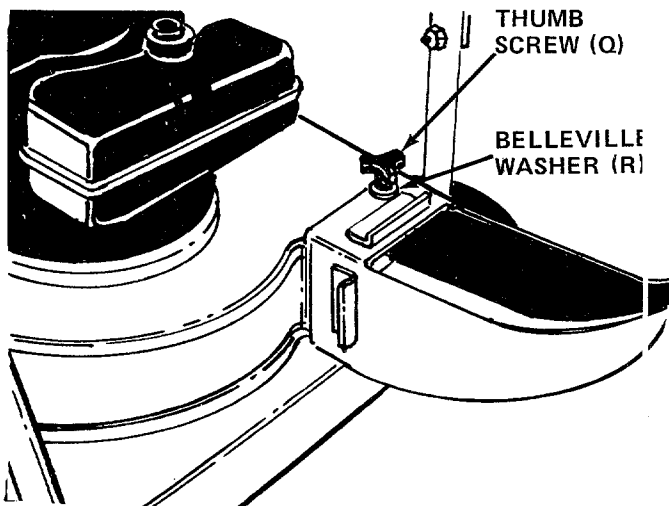

FIGURE 9
- Secure air duct with thumb screw (Q) and Belleville washers (R). Cupped side of washer must be against the air duct. See figure 9.